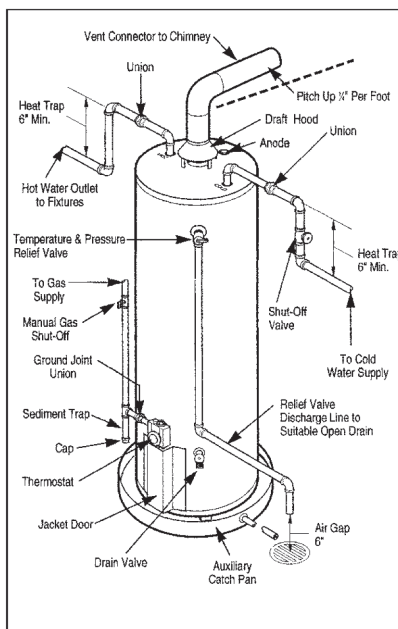

Figure 2 — Typical Installation
2. WATER SUPPLY CONNECTIONS—Refer to Fig. 2 for suggested typical installation. The installation of unions or flexible copper connectors is recommended on the HOT and COLD water lines, so that the water heater may be easily disconnected for servicing if necessary. The HOT and COLD water connections are clearly marked.
IMPORTANT!! This water heater is supplied with one (1) "Cold" (blue tip), and one (1) Hot (red tip) heat trap nipples. They **MUST** be installed directly into the water heater as shown in Fig. 2. Do not apply heat to the hot or cold heat trap nipple. If sweat connections are used, sweat tubing to